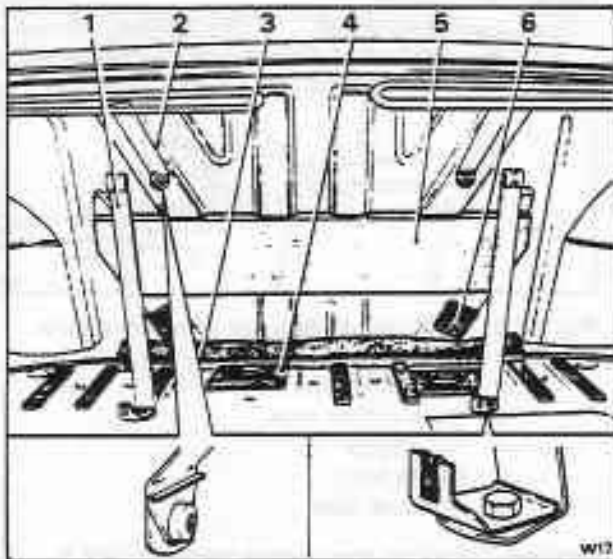

Fig. K2-3 Luggage compartment – fuel tank fittings
16. Unscrew and remove the two floor mounted fuel tank straps (see fig. K2-3).
4. Ensure the loose wooden strip is located correctly at the base of the seat panel (see fig. K2-3) and that the facing Compriband strip is in good condition.
the special washers into position and secure with the setscrews (see fig. K2-3).